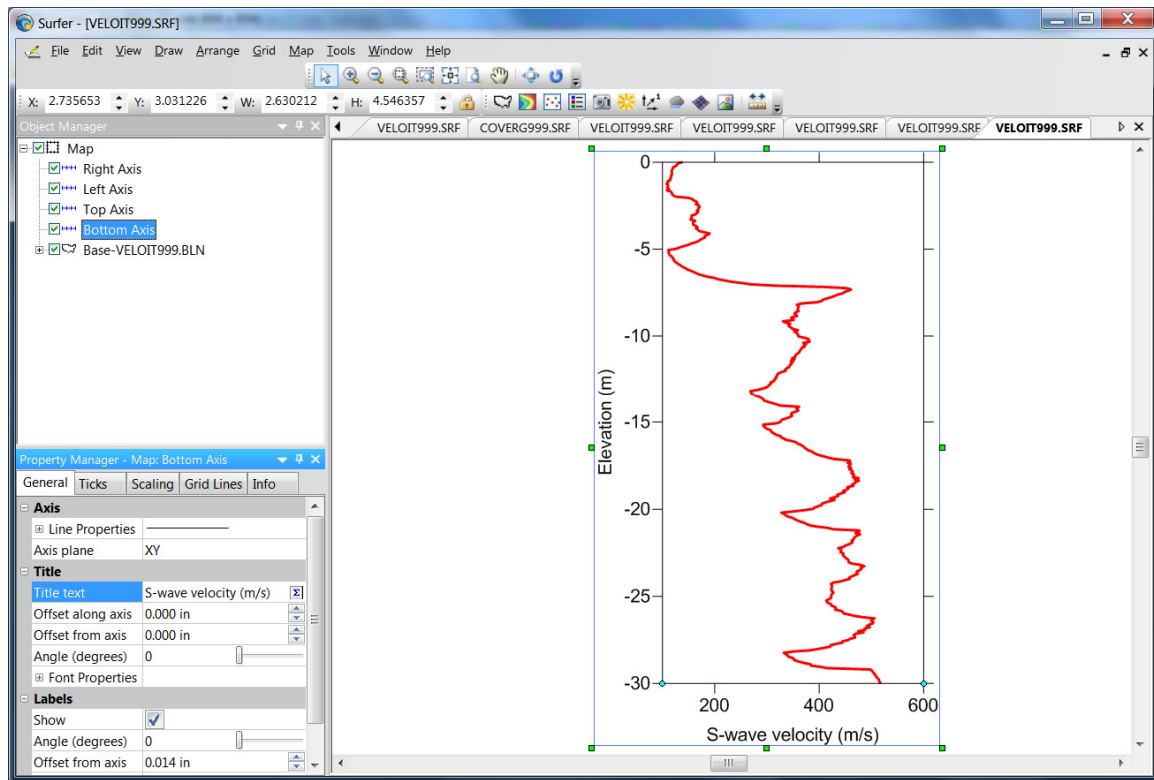

Fig. 26 : edit axis title text for VSP velocity plot in Golden Software Surfer 11.
13. left-click on Surfer 11 icon in Windows 7/10/11 taskbar (Fig. 26)
21. edit field **Title text** to "S-wave velocity (m/s)" without the enclosing "" and press return or enter key (Fig. 26)